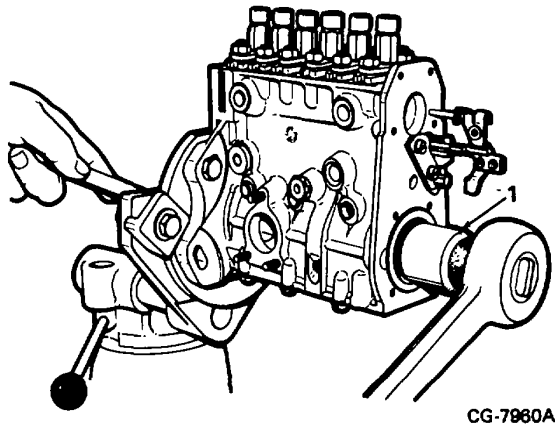

Figure 18. Removing Rear Bearing Nut and Lockwasher
- 14. Remove camshaft rear bearing nut and lockwasher (Figure 18) if rear bearing is to be replaced.